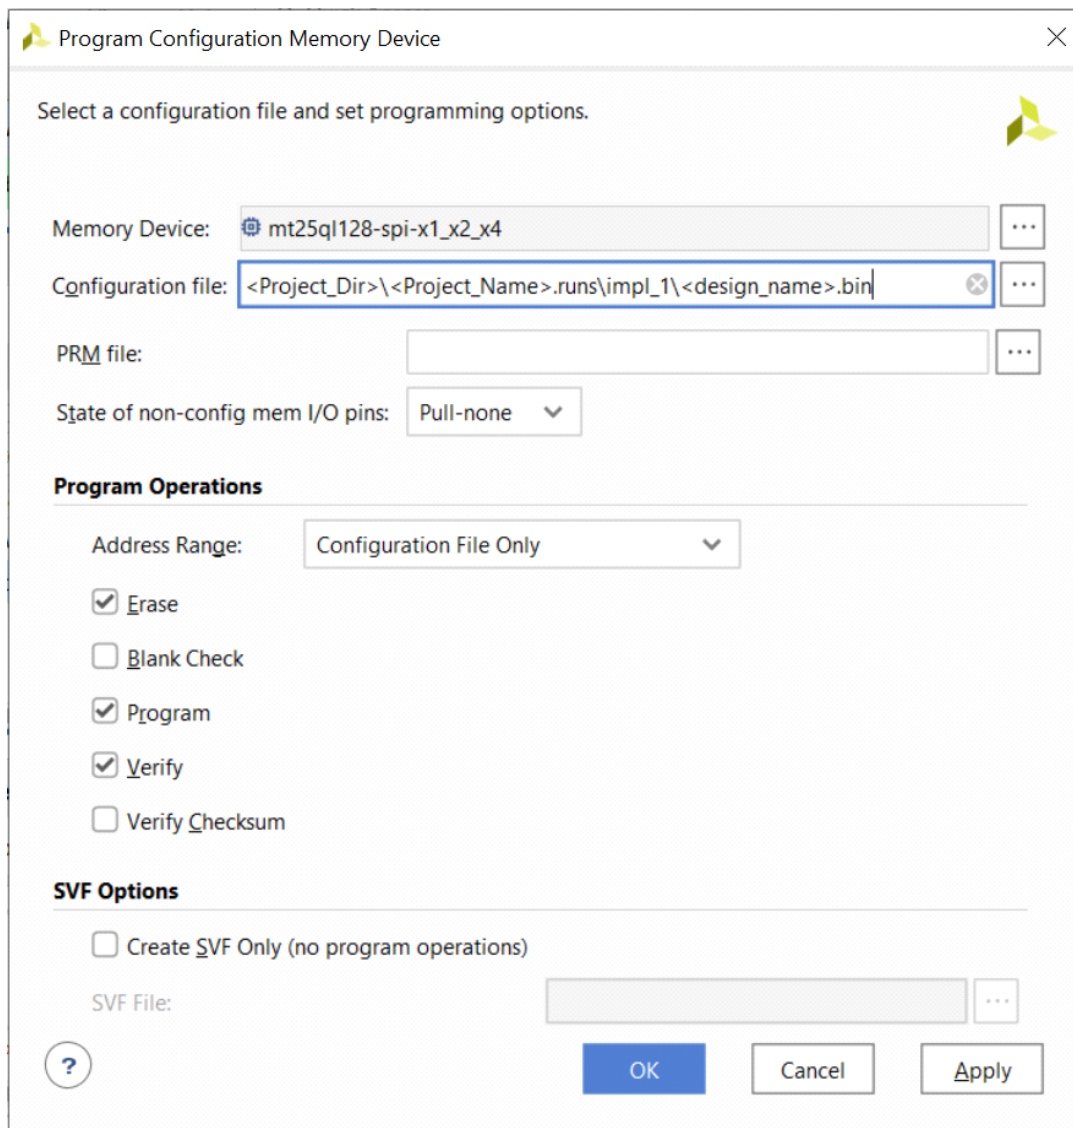

Figure 14: Program Configuration Memory Device
- Set the **Program Operations** as needed for your design and click **OK** when finished (Figure 14).